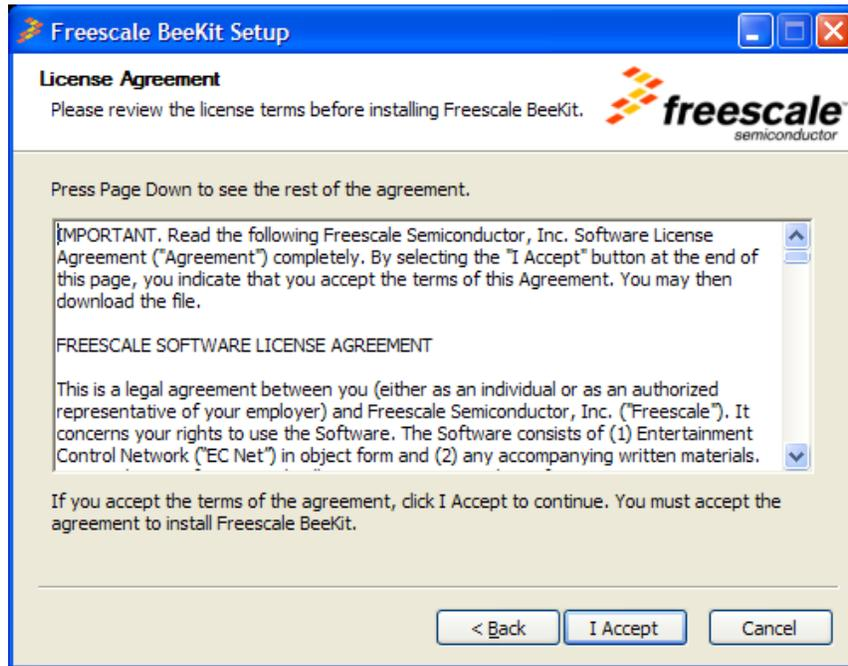

Figure 1-2. License Agreement Terms
- As shown in Figure 1-2, review and accept the License Agreement terms on the Information window by clicking the I Accept button.